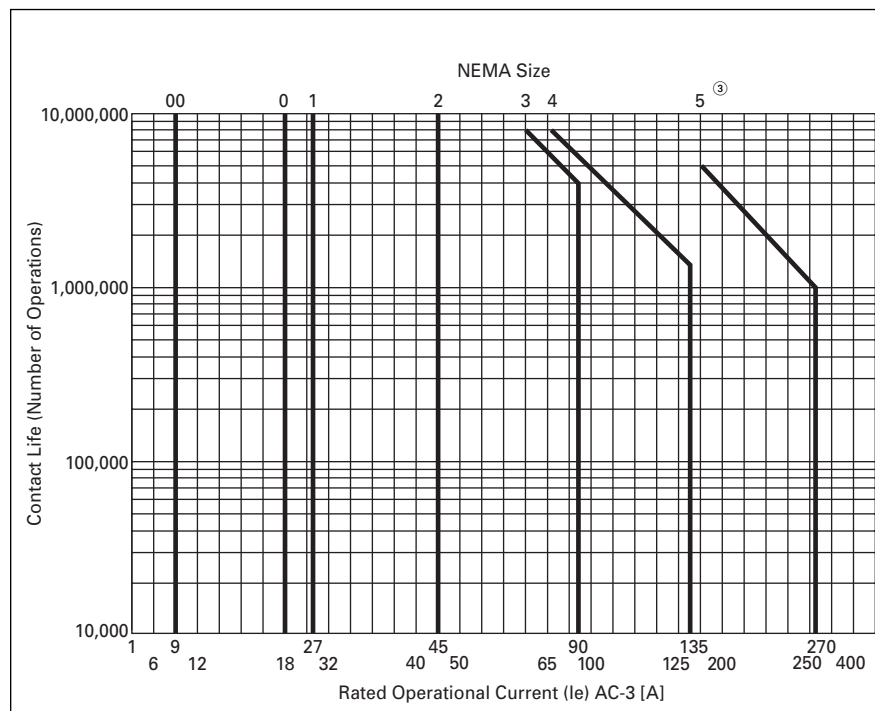

Figure 33-1. Electrical Life — AC-3 Utilization Category
- Decide what utilization category the application is and choose the appropriate curve from **Figure 33-1**.